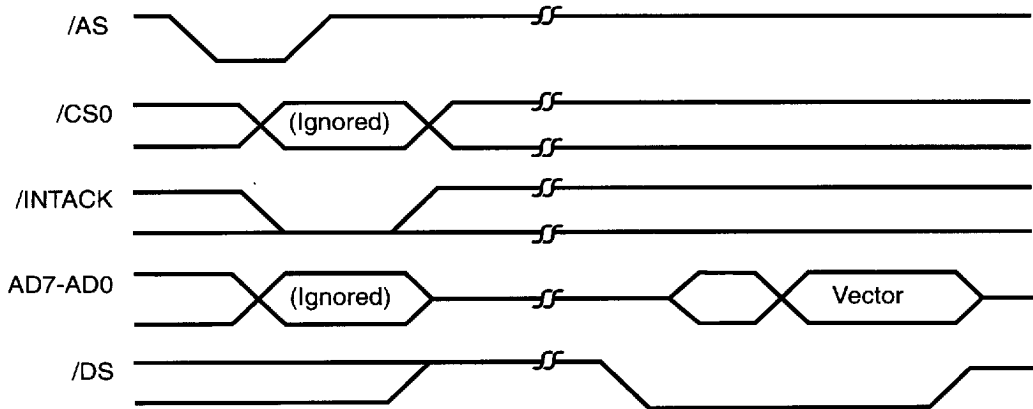

Figure 17. Interrupt Acknowledge Cycle Timing
**Interrupt Acknowledge Cycle Timing.** Figure 17 illustrates Interrupt Acknowledge cycle timing. The address on AD7-AD0, and the state of /CS0 and /INTACK are latched by the rising edge of /AS. However, if /INTACK is Low, the address and /CS0 are ignored. The state of the R/W and CS1 are also ignored for the duration of the Interrupt Acknowledge cycle. Between the rising edge of /AS and